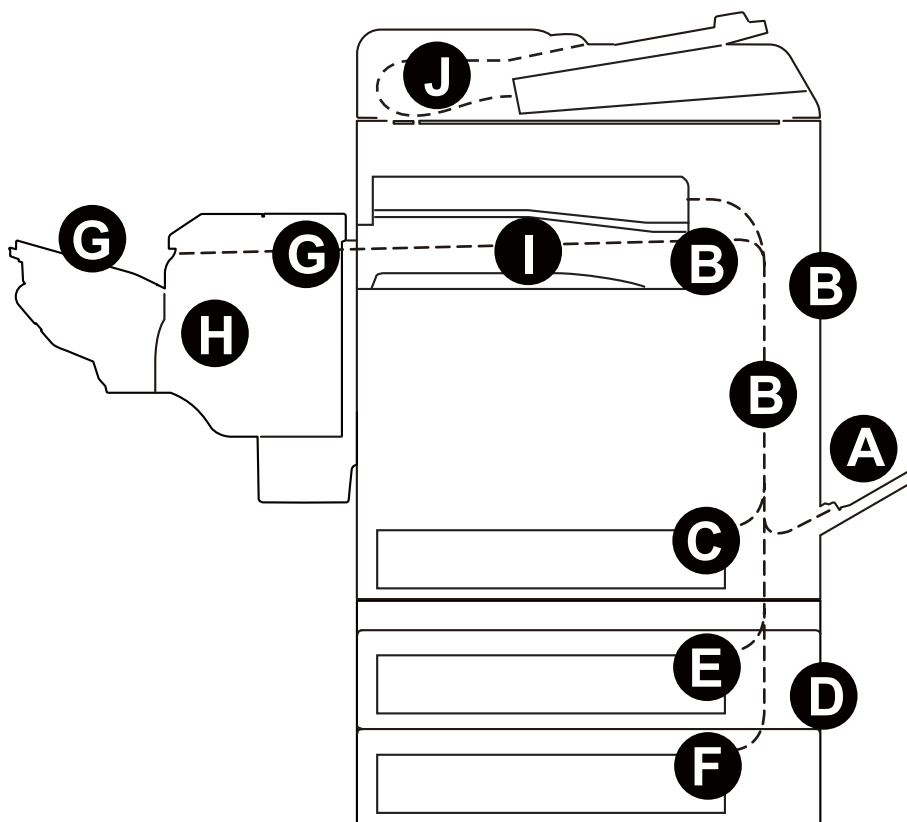

Figure 1-4-1
*: Refer to figure 1-4-1 for paper jam location (see page 1-4-1).